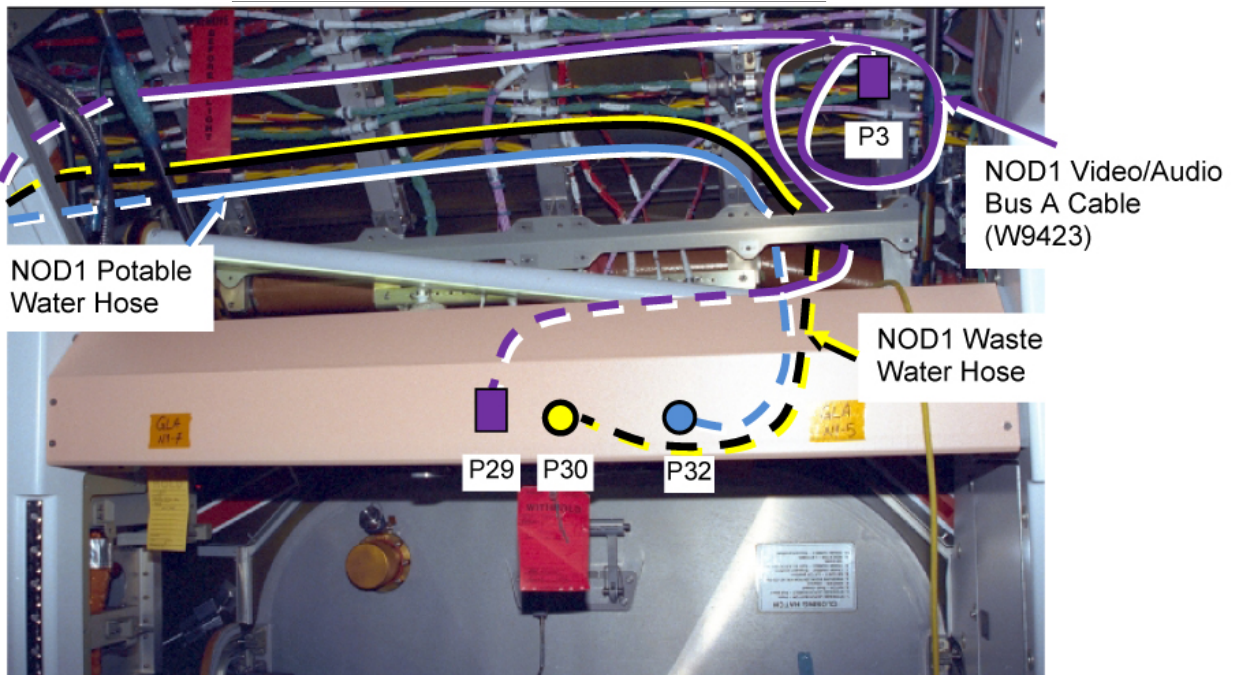

Figure 21. Routing of Fluid Hoses in NOD1OP2 Area.
- NOD1P4 9.2 Route 90-degree Gamah connector of NOD1 Waste Water Hose from NOD1P4 to NOD1OP2 Bulkhead connector J30 - Waste Water. Refer to Figure 21 for recommended routing.
| NOD1P4 | 11.3 | Locate P3 and P29 of NOD1 Video/Audio Bus A Cable (W9423). Route P3 and P29 from NOD1P4 to NOD1OP2 as shown in Figure 21. |
| NOD1OP2 | 11.4 | Coil and stow P3 leg of NOD1 Video/Audio Bus A Cable (W9423) at location shown in Figure 21.